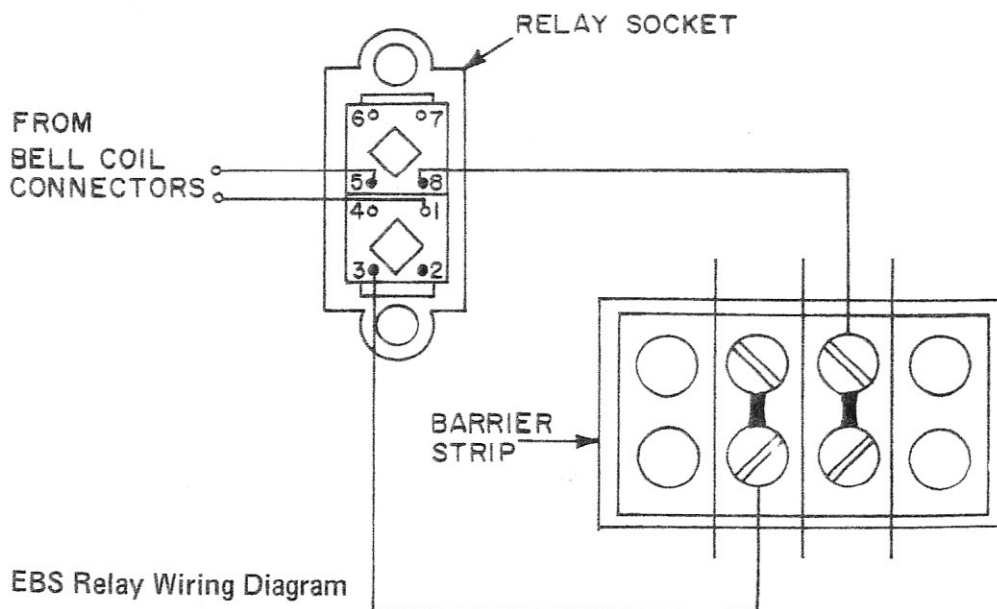

Figure 4-1. EBS Relay Wiring Diagram
- (1) To gain access to the relay socket, follow instructions in Paragraph 2-11b, describing access to Printed Circuit Board Assemblies.
- (2) Locate the relay socket adjacent to the Power Transformer within the teleprinter electronics base and insert relay module.
- (3) Pins 1 and 5 of the relay socket have been wired in parallel with the bell coil, while the separate pair of wires, available to the installer, are wired to Pins 3 and 8—the normally-open contacts of the relay.
- (4) Mount the two-lead barrier strip on the exterior rear panel of the electronics base.
- (5) Consult Figure 4-1 below as you connect the two wires from Pins 3 and 8 of the relay socket to the barrier strip.
- (6) Re-assemble teleprinter cabinet as per instructions in Paragraph 2-11b in SECTION 2 of this manual.